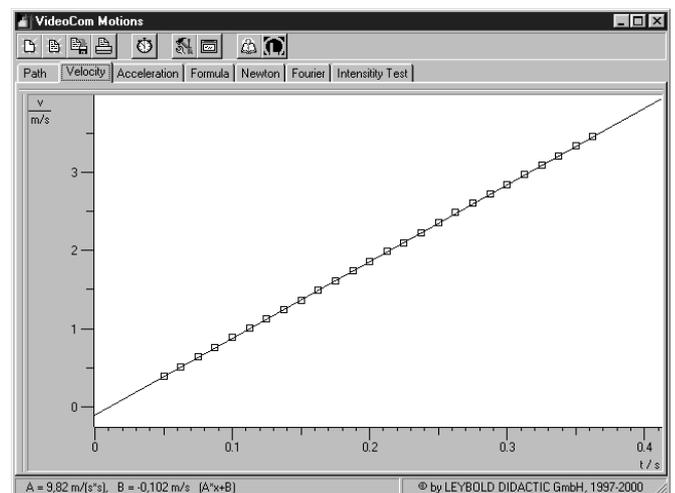
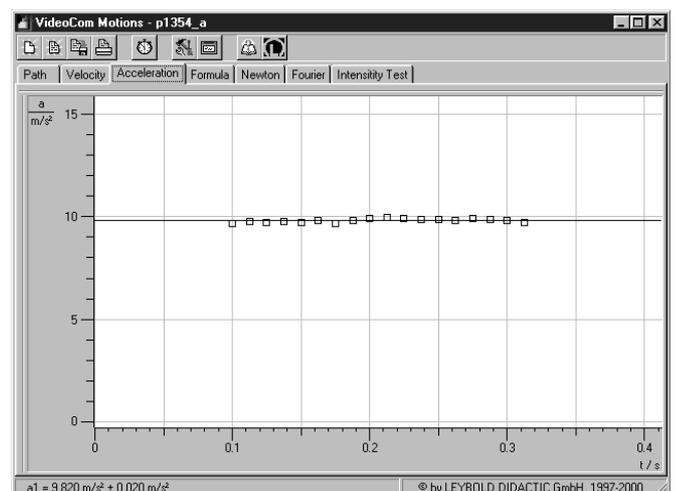

Fig. 4 Velocity-time diagram of the falling body.
Fig. 5 Acceleration-time diagram of the falling body.
The instantaneous velocity v , which is calculated from the measured values by clicking the register “Velocity”, is a linear function of time (see Fig. 4 and cf. (II)). From the slope of the fitted line $A \cdot x + B$ the gravitational acceleration is obtained:
If the instantaneous acceleration a is calculated as a function of time by clicking the register “Acceleration”, constant values are obtained within the accuracy of measurement (see Fig. 5). Their mean value is
The fitting result $B = -0.1 \text{ m s}^{-1}$ in Fig. 4 and Fig. 5 corresponds to a (physically meaningless) negative initial velocity of the falling body. Actually the recording of the measured values was started somewhat earlier than the motion of the falling body because the holding magnet released the falling body with a slight delay.